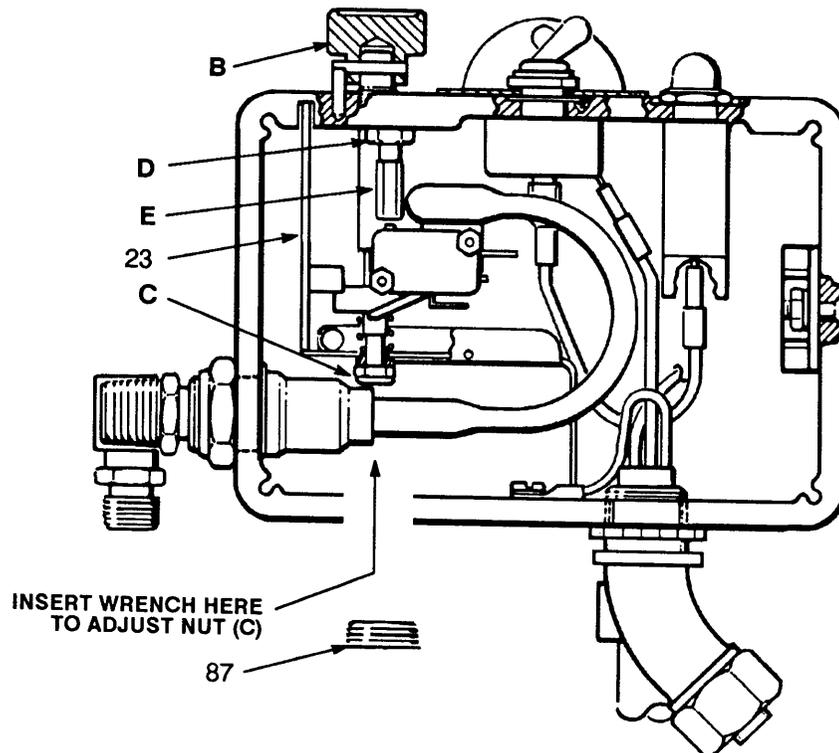

Fig 22
**NOTE:** For Steps 6 through 18, refer to Fig 22.
7. Turn the pressure control knob (B) to the *minimum* setting (fully counterclockwise), and turn the sprayer **ON**. **THE DISPLACEMENT PUMP SHOULD NOT CYCLE**
**If it does cycle**, remove the plug (87) from the bottom of the pressure control. Insert a 3/8 in. nut driver through the opening, and unscrew the pressure adjustment nut (C) just until the sprayer stops running.